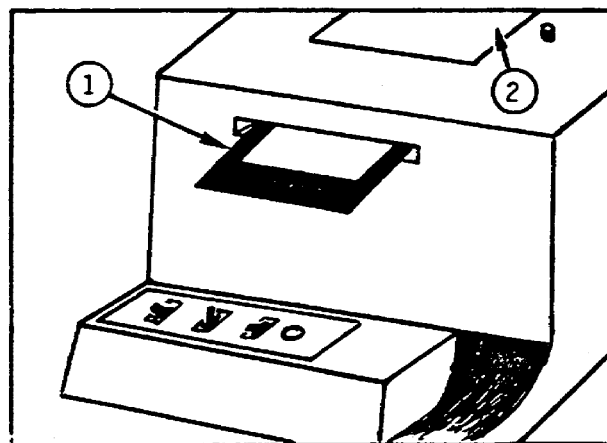

Figure 1-11. Filter Compartment and Holder.
h. Filter Compartment and Holder (fig 1-11). ① - filter holder slides in and out of the filter compartment easily, allowing insertion of filter without disturbing copy or opal view glass 2. The use of filters for color correction will be dealt with later in the course.